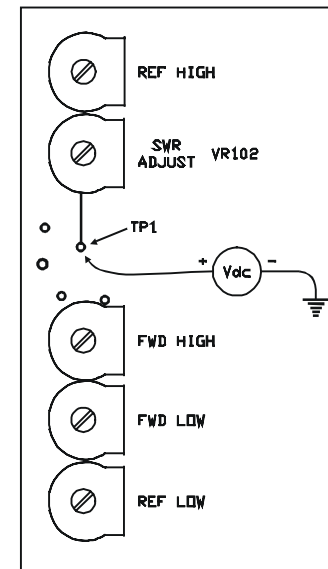

Figure 1
4. Refer to Figure 1. Apply enough RF to indicate 100 watts on the forward meter scale and measure the voltage at **TP1** (nominal .9 volts). Make a note of this voltage. Voltage A _____
The follow chart will tell how much to raise or lower the voltage measured in step 4 by adjusting VR102. (Figure 1)
5. Remove the back cover of the control unit and locate VR102 (refer to Figure 1).